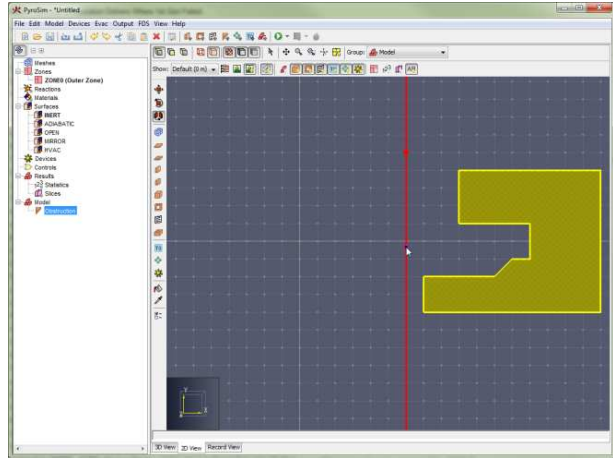

Figure 98. Define second point and mirror line
- Use **Click-drag Mode** or **Multi-click Mode** to define two points that create a plane about which the selected objects are mirrored (Figure 98).